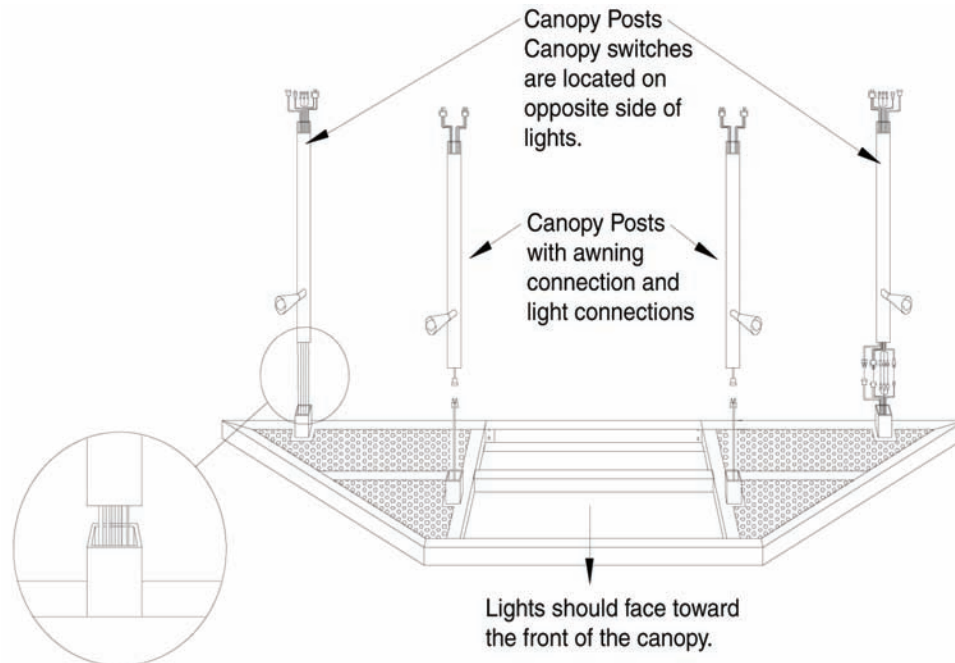

Figure 25. Canopy mounting tabs and support sleeves
4. After making all the wire connections, slide each canopy support post into the support sleeves (located on the canopy). Gently tuck the cables into the support post, making sure not to pinch the cables (Figure 25).